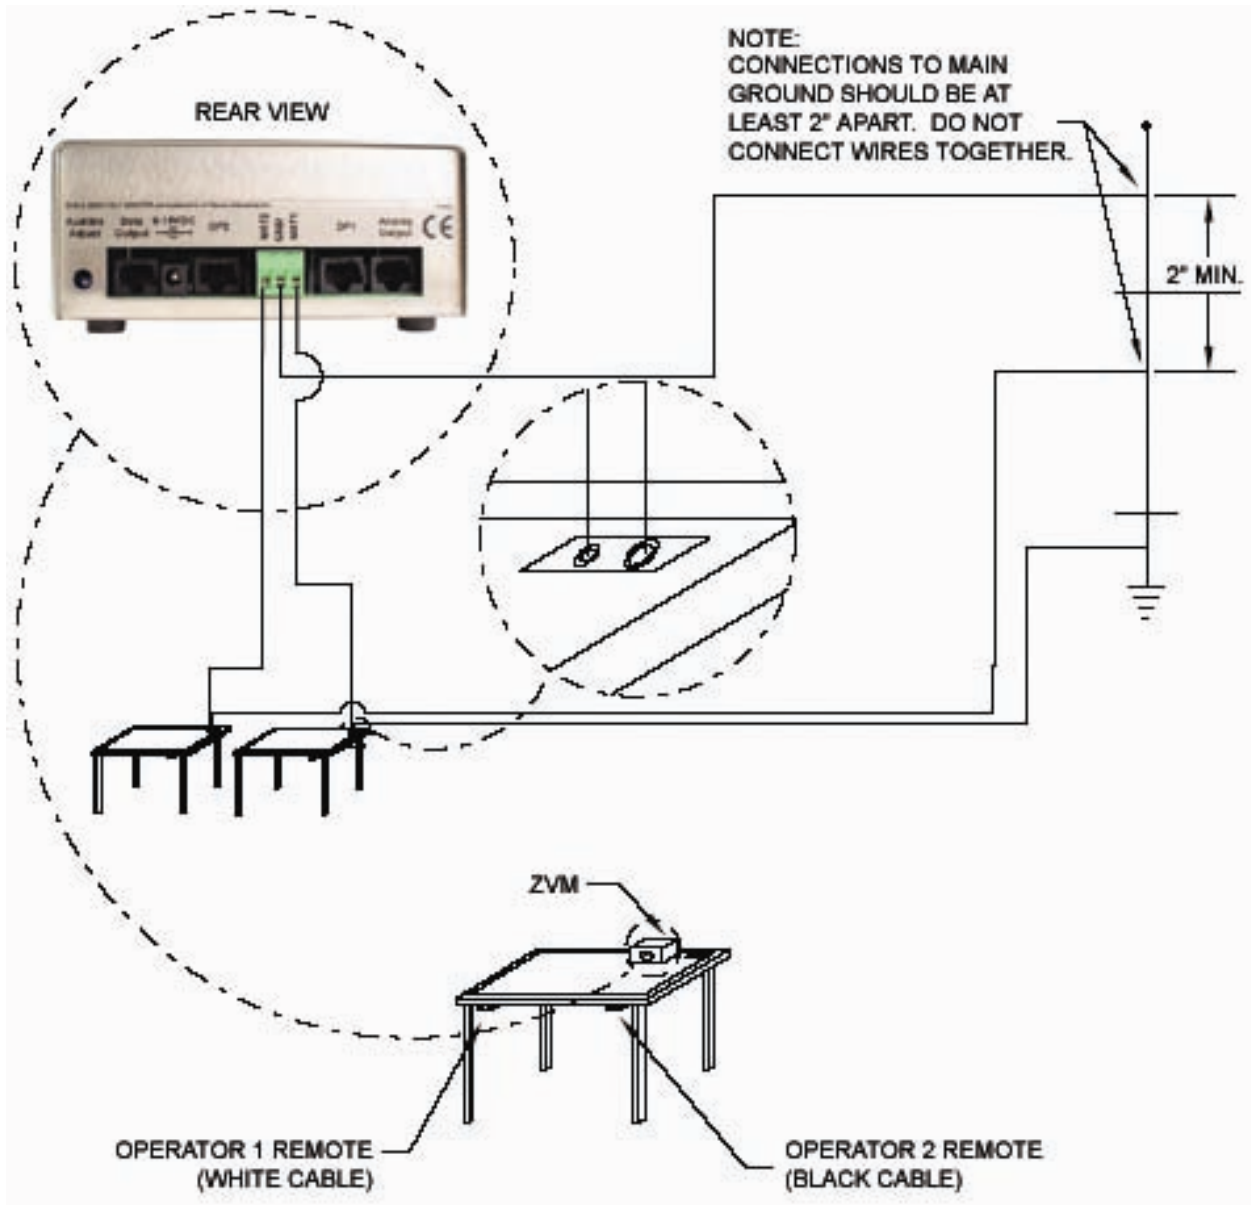

Figure 2. Installing the Zero Volt Monitor™
- VI. Attach the work surface mats to ground using two of the three black ground cords (See Figure 2). Attach the ring terminal end of the cord to the bench common ground point or other appropriate ground point.